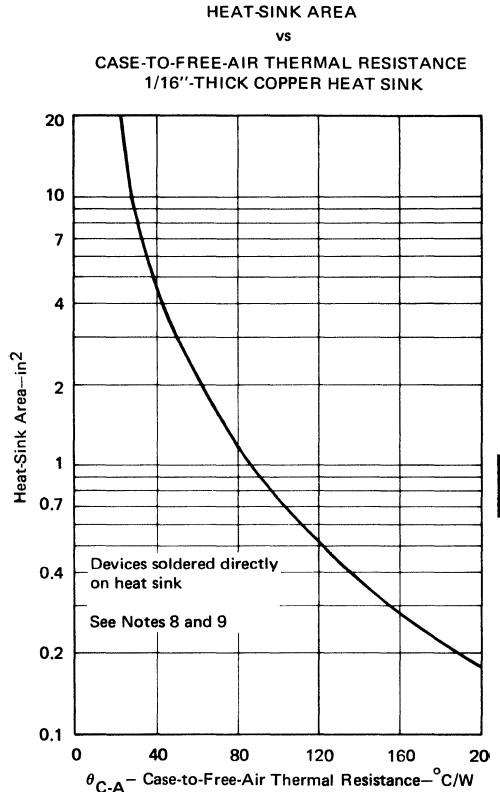

FIGURE 1
3. Determine area of heat sink from Figure 1.
Figure 1 shows that for θ_{C-A} of 47°C/W, the area is 3.4 in². The minimum dimensions of the sides should be: